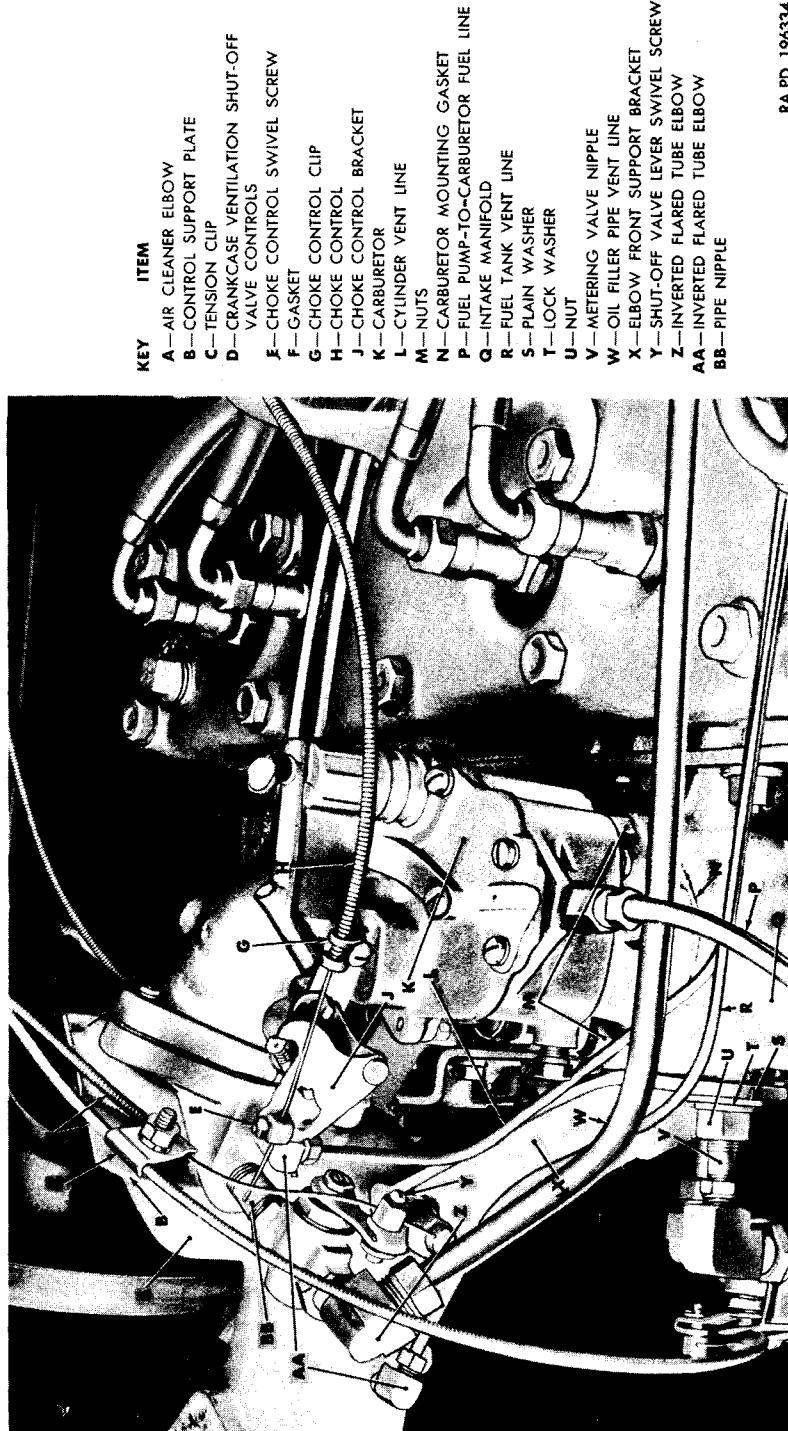

Figure 101. Carburetor (late type) and air cleaner elbow.
a. *Adjust choke control.* Loosen the choke control swivel screw (E, fig. 101). Push the choke control bracket to the fully closed position and if sufficient clearance does not exist between bracket and control conduit, loosen the screw at the choke control clip (G, fig. 101) and push the conduit back. Tighten screw. Push the choke control (Y, fig. 12) all the way in. Hold the choke control bracket (J, fig. 101) to the fully open position (toward air cleaner) and tighten the choke control swivel screw (E, fig. 101).
Note. The key letters noted in parentheses are in figure 101, except where otherwise indicated.
- (4) If the pipe nipple (BB, fig. 101) and other fittings were removed (*c(5)* above), install the parts. Refer to paragraph 117.